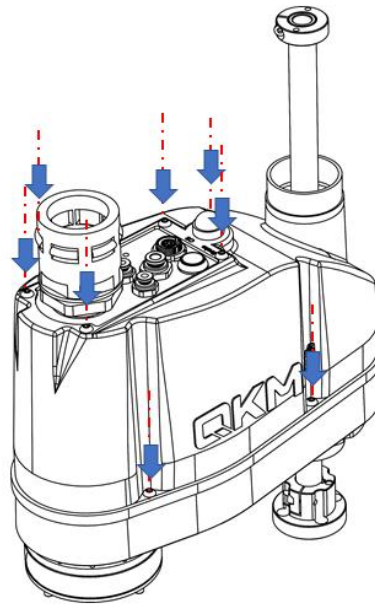

Figure 4-19 Installation of the second mechanical arm shell
- Step 2** Use 3 mm Allen wrench to tighten the screws on the second mechanical arm shell of the robot (with a tightening torque of 0.4 N·m), as shown in Figure 4-19